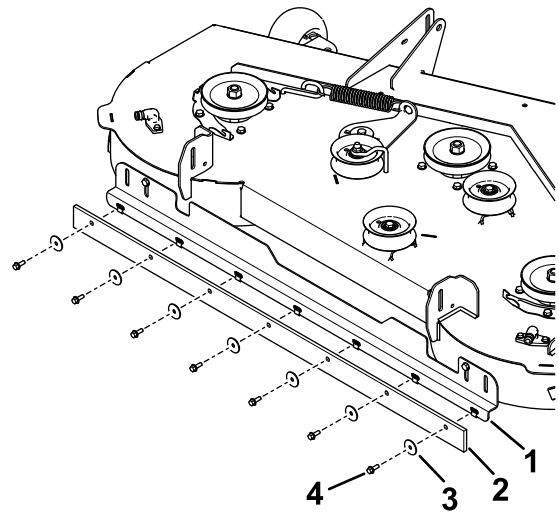

**Figure 5**
- Install the bracket to the holes using 2 thread-forming bolts (5/16 x 1/2 inch) as shown in Figure 5.
- Install 7 speed nuts to the open holes in the bracket (Figure 5).